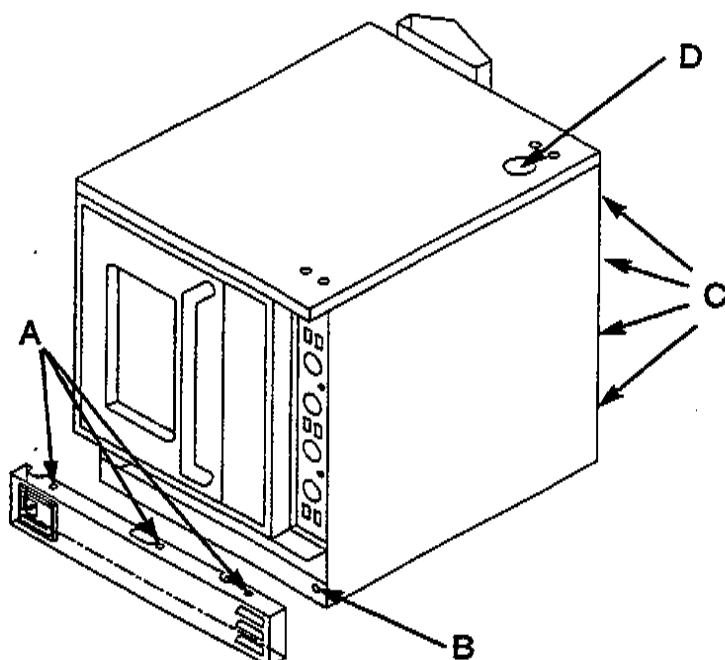

FIGURE 8
3. Next, locate and remove screws that hold the combustion chamber cover on the top and bottom ovens. Refer to figure 8, screws (Items "A" and "B"). The screw (labeled Item "B") is located behind the access panel on the lower right body side. Remove screw (item B) and screws (item C) from rear of oven. Remove body side to access compartment